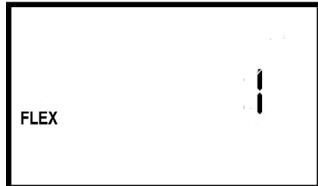

Figure 6–8 Flex Setting Screen
1. From either the Monitoring or Standby screens, press the **Right User** button. The Flex Setting screen appears, as shown in Figure 6–8.